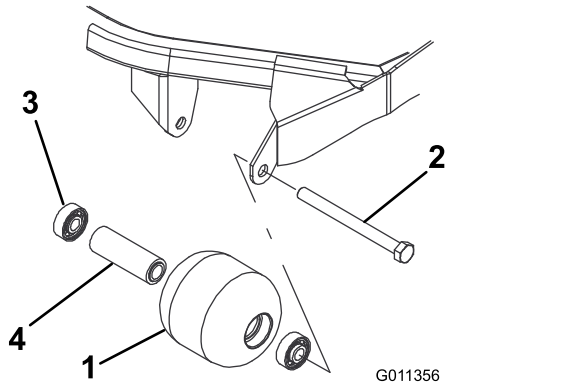

Figure 72
1. Remove the roller-mounting bolt (Figure 72).
4. Inspect the roller housing, bearings, and bearing spacer for damage (Figure 72). Replace any damaged components and assemble them.
1. Press the first bearing into the roller housing (Figure 72). Press on the outer race only or equally on the inner and outer race.
2. Insert the spacer (Figure 72).
3. Press the second bearing into the roller housing (Figure 72). Pressing equally on the inner and outer race until the inner race comes in contact with the spacer.